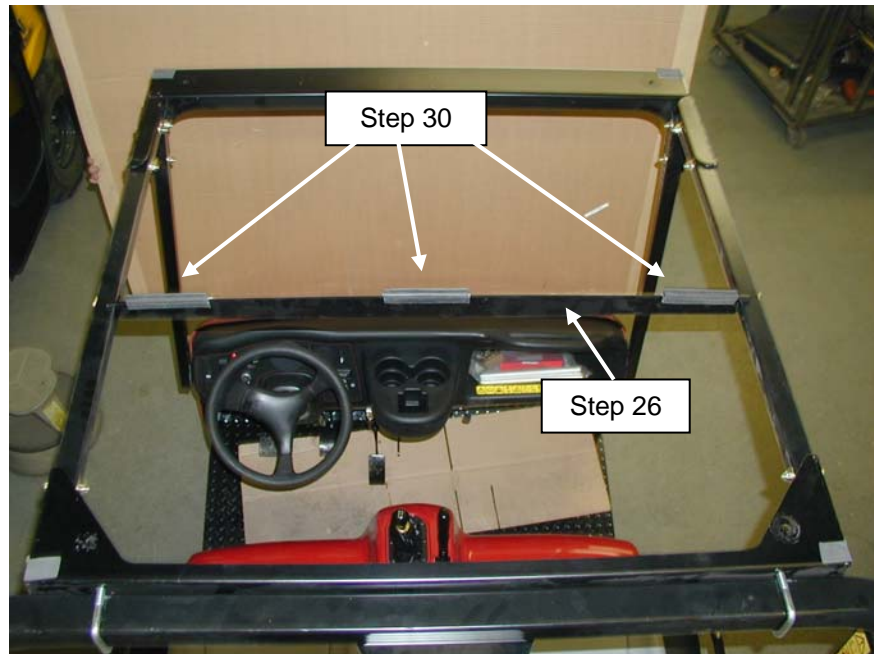

Figure 5
26. Assemble middle support bracket to middle of frame and fasten with (2) 1/4 x 1.75" long bolts, (4) 1/4" flat washers and (2) 1/4" nylock nuts. See Figure 5.
30. Install (3) bubble rubber strips, 4.00" long onto the top center bracket as shown in Figure 5.